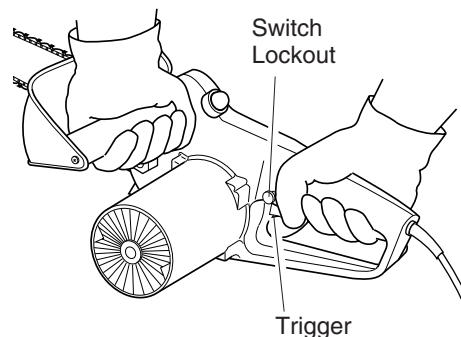

Figure 9 - Switch Lockout and Trigger Location
3. Use both hands to grip saw. Always use left hand to grip front handle and right hand to grip rear handle. Use firm grip. Thumbs and fingers must wrap around saw handles (see Figure 9).
5. When ready to make a cut, press in switch lockout with right thumb and squeeze trigger (see Figure 9). This will turn saw on. Releasing trigger will turn saw off. Make sure saw is running at full speed before starting a cut.